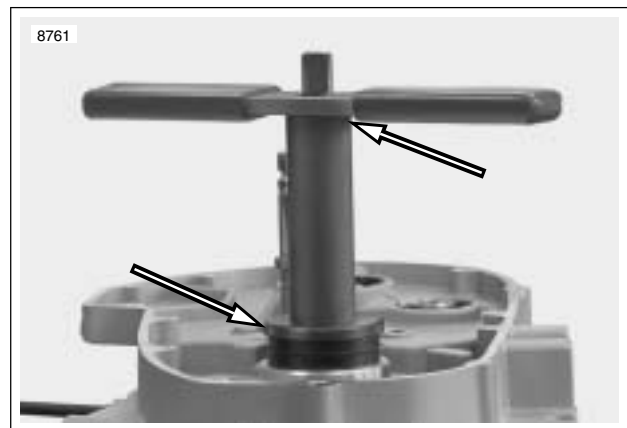

Figure 3-153. Sprocket Shaft Seal/Spacer Installer (Part No. HD-42579 and B-45676)
8. See Figure 3-153. Use SPROCKET SHAFT SEAL INSTALLER (Part No. B-45676) to install sprocket shaft seal.